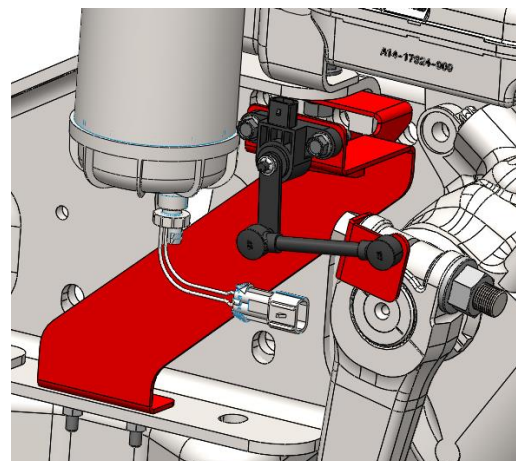

Figure 31. Steering Sensor Installation.
7. Install the Steering Sensor as shown in **Figure 31** using the 5/16" fasteners.
13. Install the Steering Sensor as shown in **Figure 31** using the 5/16" fasteners.